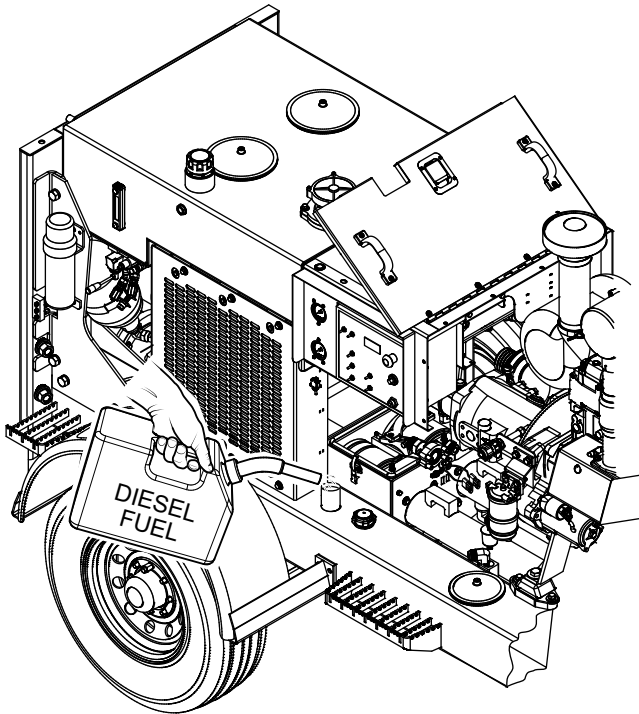

Figure 10. Adding Diesel Fuel
2. If fuel is low, remove the fuel filler cap and fill the tank with #2 diesel fuel (Figure 10).